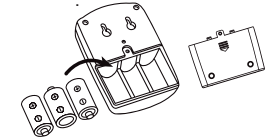

Fig.5
6. Install three "C" batteries in the receiver. (Fig.5)